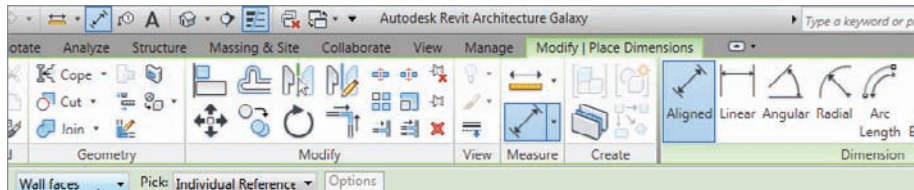

FIGURE 5.2 The Options bar for the Dimension command. Notice the Options button.
4. On the Options bar, you will see two drop-down menus with some choices, as shown in Figure 5.2. Make sure that you have Wall Faces selected.